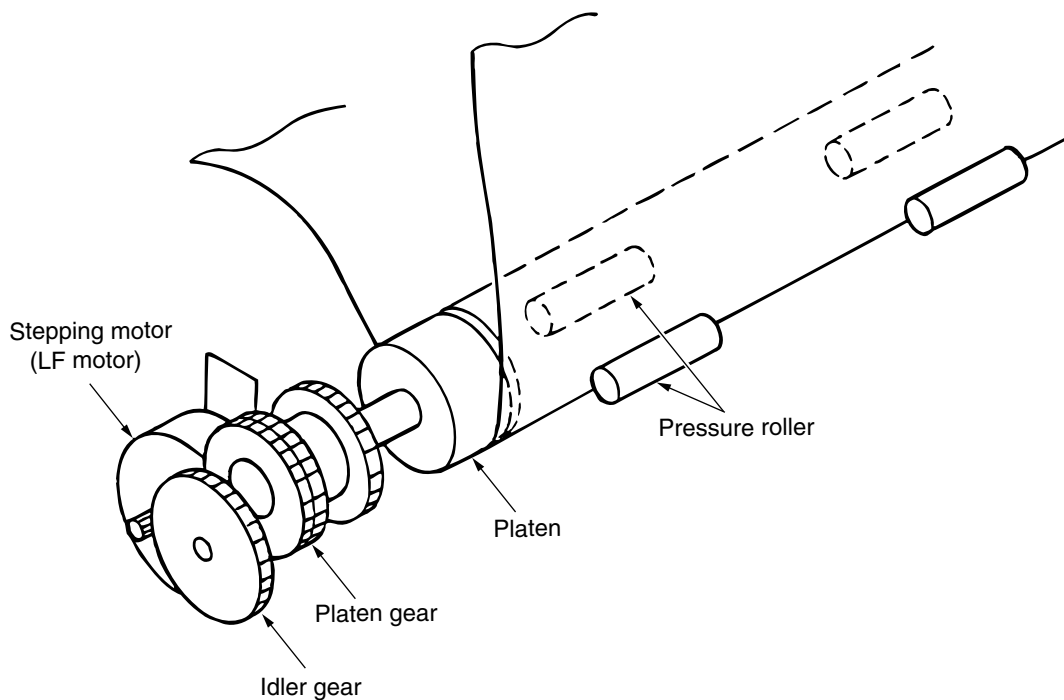

Figure 2-7
(1) Cut-sheet feed operation (See Figure 2-7.)